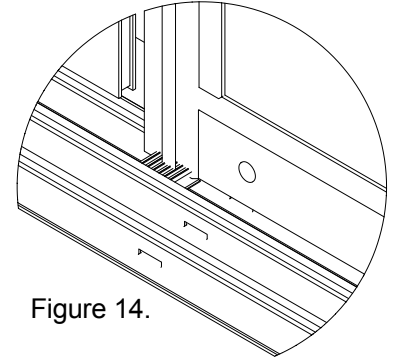

Figure 14.
Step 20. (Dust Plug Installation) Place the fin seal dust plug directly underneath each interlock at the head and sill ends (See Figure 14). Trim two dust plugs so that they fit between the innermost roller track and the sill riser. These dust plugs will be placed directly above and below the center panel / hook strip interlock.